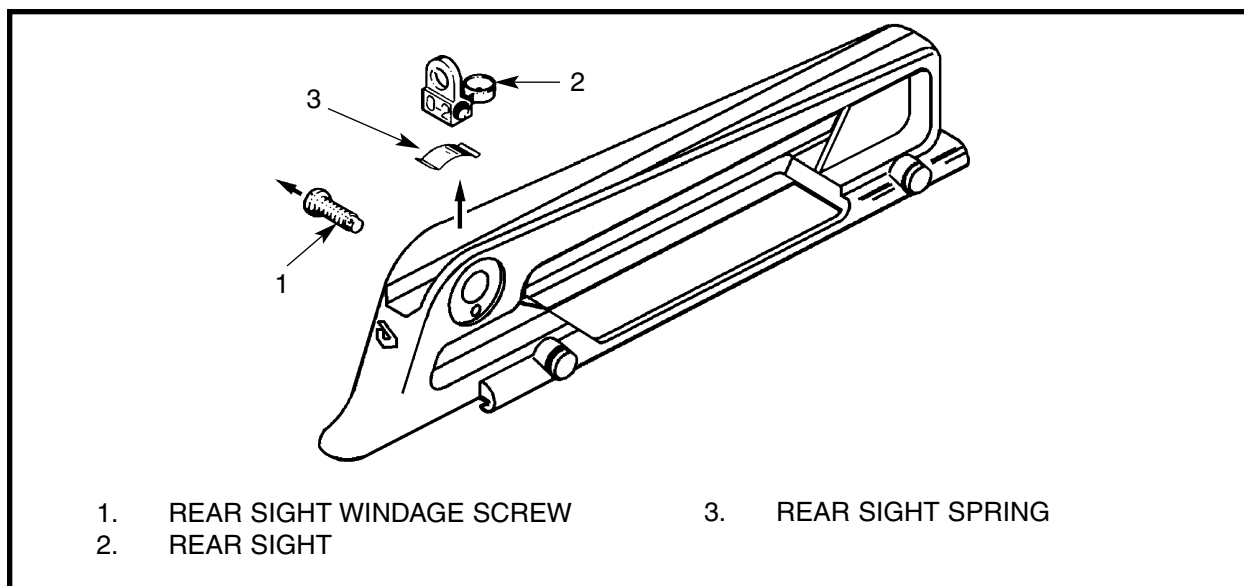

Figure 3-2-67 Removing the Rear Sight
- e. Remove the rear sight windage screw (1), rear sight (2) and rear sight spring (3). See Figure 3-2-67.